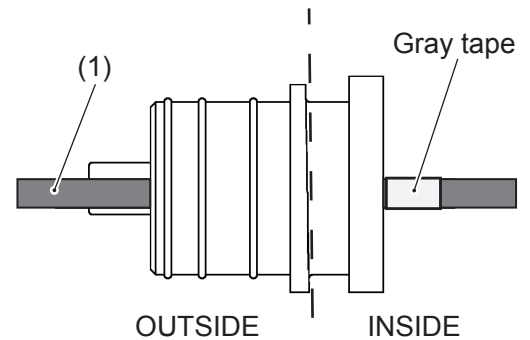

Fig. 7
11. For 36623-98LB1 or later, align the back end of the grommet with the front end of the gray tape as shown in Fig. 7.